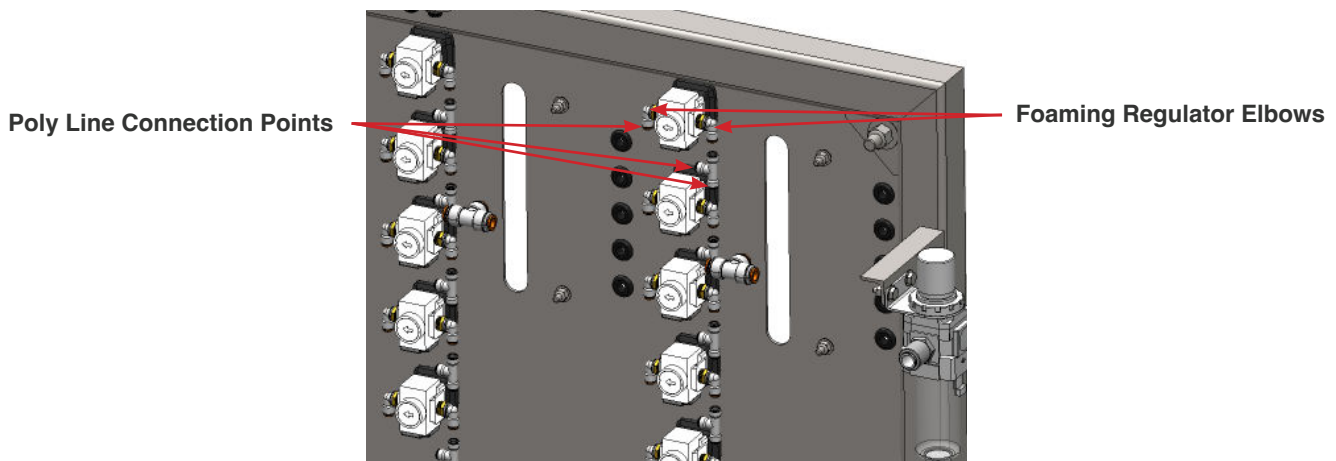

Fig. 7.1.1 - 1 - Foaming regulator poly line connection points
5. Remove the elbows from the rear of the regulator (Fig. 7.1.1 - 1).